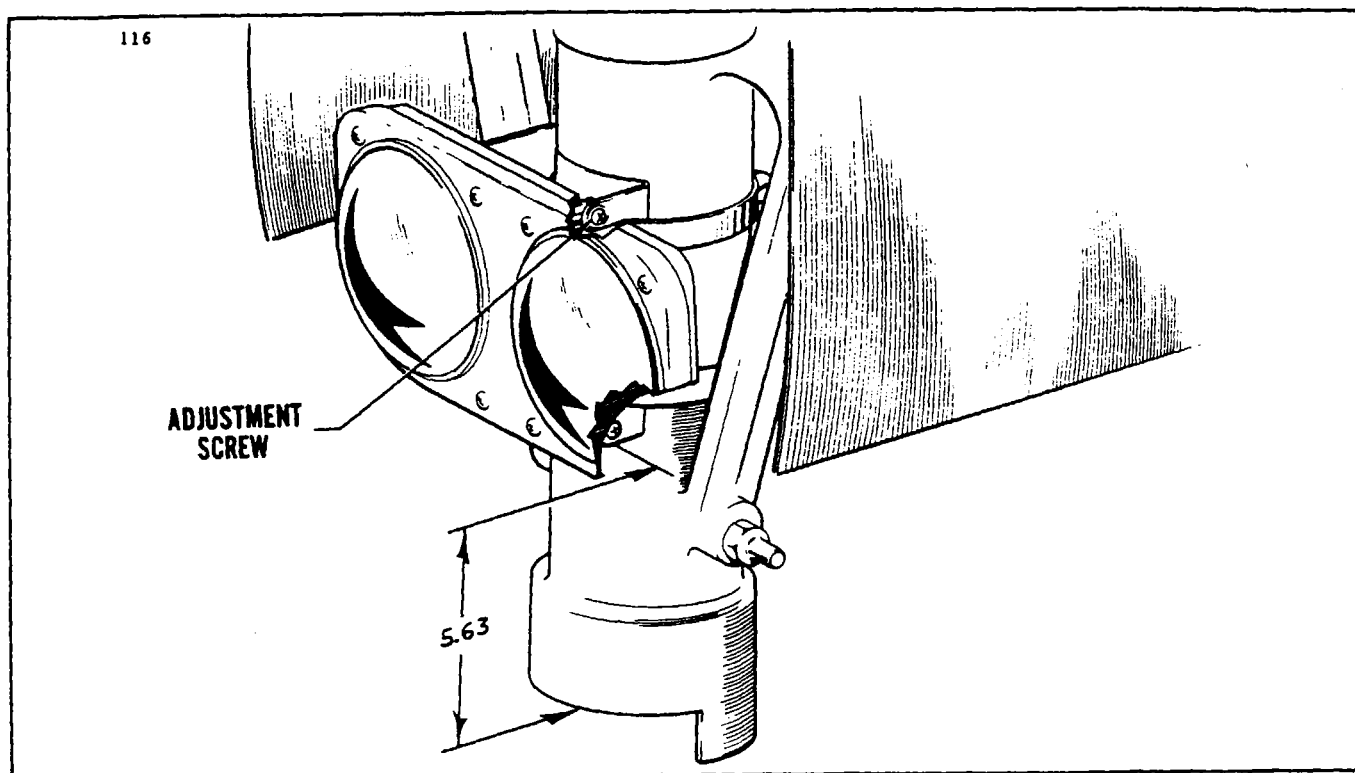

Figure 4-1. Landing Light
4-12. REMOVAL OF LANDING LIGHT. (Refer to Figure 4-1.)
b. To install the landing light assembly, position the assembly against the strut housing with the bottom of the mounting bracket 5.63 inches up from the bottom of the housing. (Refer to Figure 4-1.) Align the bracket longitudinally and secure with clamps. The light beam angle may be adjusted by the adjustment screws at the sides of the bracket and tilting as desired.